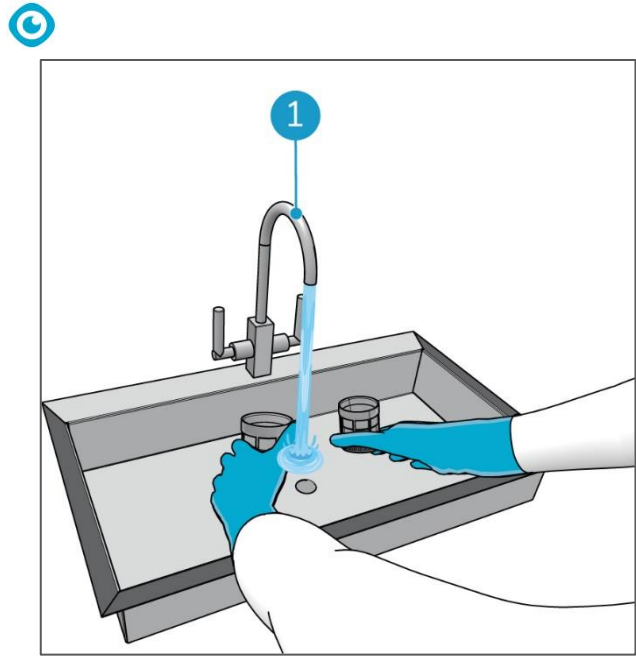

Figure 75
5. Clean the water filter with tap water from the inside outwards. Clean the cover with tap water. Clean both in a sink (Figure 75, pos 1).